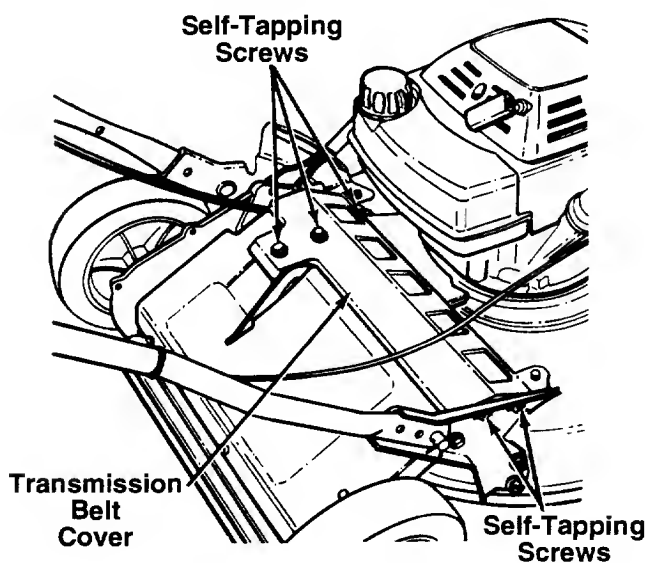

FIGURE 15.
- Remove the transmission belt cover by removing five self-tapping screws. See figure 15.